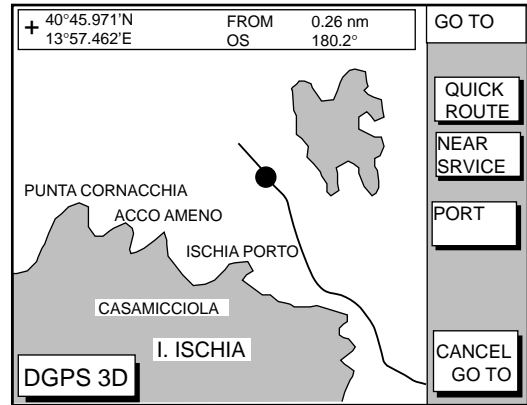

Figure 7-2 Plotter display
6. Press the soft key GO TO. Soft key titles change as in Figure 7-2.